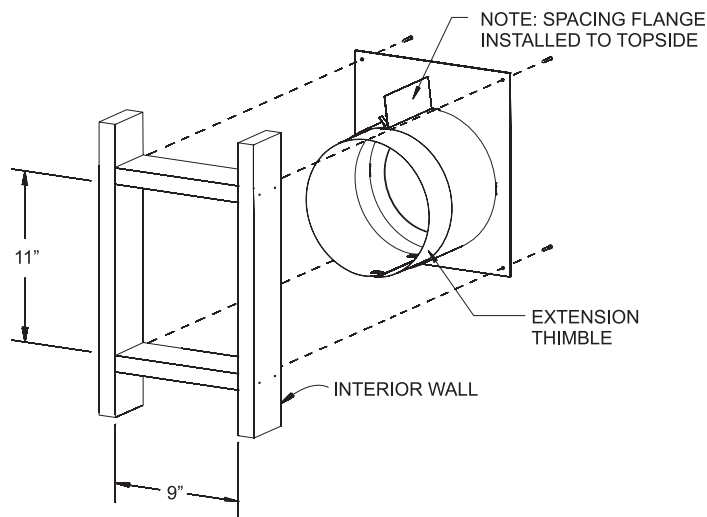

Figure 58
2. Cut hole in wall for wall thimble/firestop assembly (Figure 58) into your combustible wall. Note: On brick or block exterior wall a 7" (178mm) diameter hole needs to be cut.
Measure the total wall thickness to determine whether or not the extension thimble is to be used. If the combustible wall depth is over 5 3/8" (137mm), then the extension thimble should be used. See Figure 58.
3. Install the wall thimble assembly through the framed opening so the firestop plate is on the interior wall (Figure 58). Telescope section should extend all the way through the exterior wall. Attach with four 10 x 1" screws.